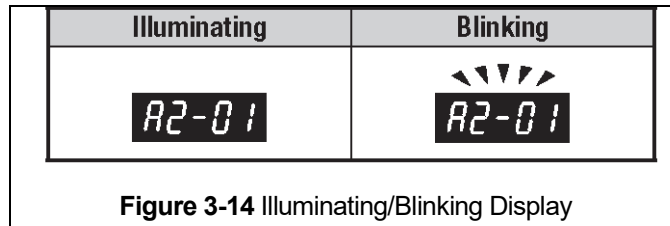

Figure 3-14 Illuminating/Blinking Display
3.5.6 During operation the data display will exhibit illuminating or blinking data as shown in **Figure 3-14**.